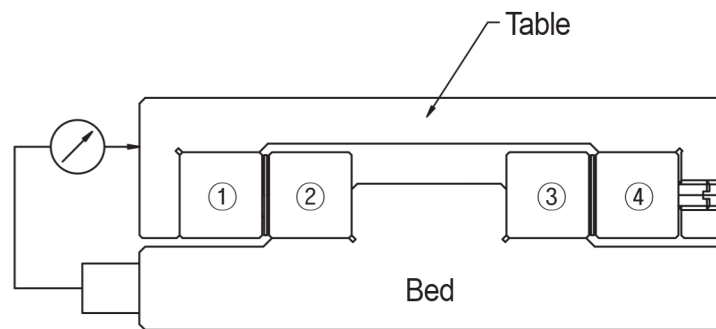

Fig 4. Installation Method
- 1) Press rails ①, ② & ③ firmly against the bed and the table, while correctly positioning the mounting surfaces. Firmly tighten the rail-mounting bolts.
- 2) Temporarily fasten rail ④ to the table and make a sure some space for inserting Roller Cage from the rail ends.
- 3) Position a dial gauge as shown in Fig. 4. While gently pressing the table, tighten Adjust Bolt uniformly until there is no slack. Then, attach stoppers to the rail ends, and set the dial gauge to zero.
- 5) Slide the table from the right and left and complete the installation by mounting the remaining Adjust Bolt(Ⓐ, Ⓔ in Fig.4) and the Tightened Bolt. at this displacement in the dial pre-load amount. Tighten the mounting bolts at the adjusted positions securely. move the table to the side, finish the installation as tightening the remaining adjustment bolts Ⓐ, Ⓔ in the same way.